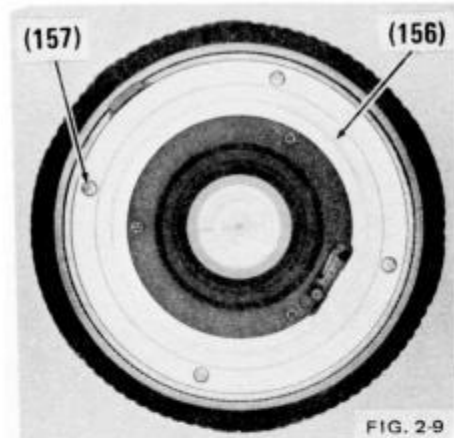
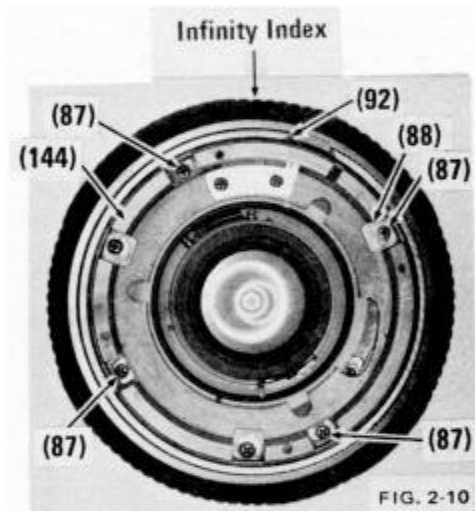

FIG. 2-9
FIG. 2-10
- a) Remove four screws (157); lift off mount (156). Fig. 2-9. NOTE: Watch for focus spacers which usually are located between the mount and mount frame. If loose, remove and set aside.
- b) Position the lens so that infinity index line is at the 12 o'clock position. Remove four screws (87) that attach the mount frame (144) to the inner helicoid.
NOTE: The cam retainer plate (88) at the 2:30 position. Refer to Note in Instruction 2.1g when reassembling. Fig. 2-10.
- c) Remove aperture ring (143) and mount frame (144). Mount frame retains aperture ring in position.